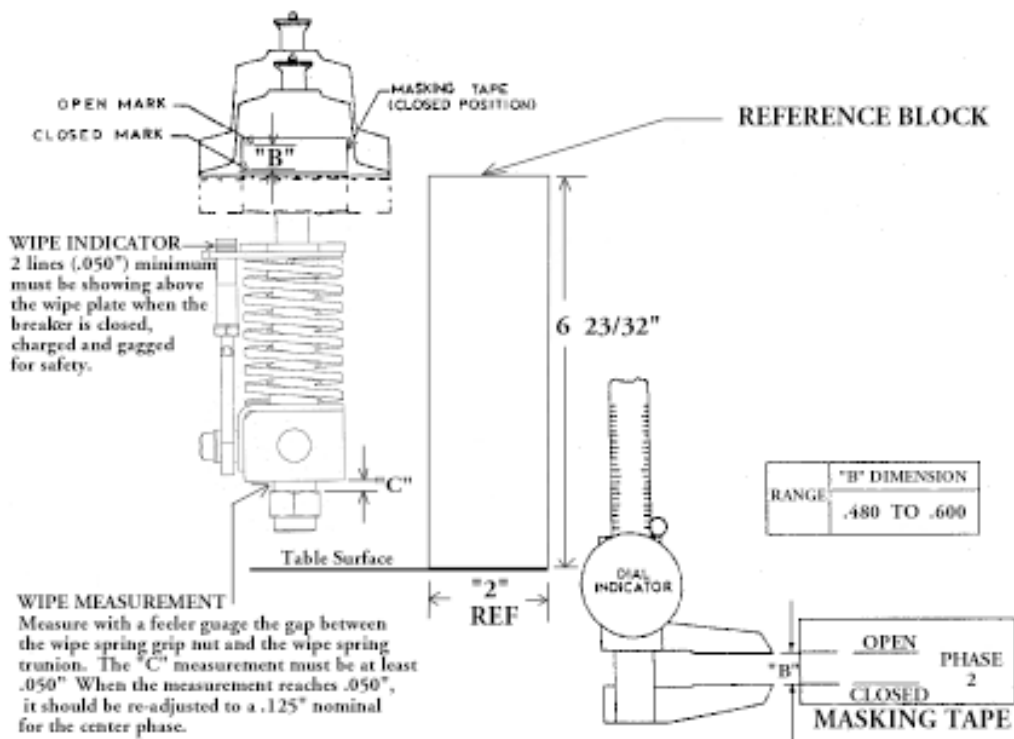

Figure 31. Contact Gap measurement, wipe indicator check and wipe measurement
2. To verify contact gap dimensions, reference Figure 31.